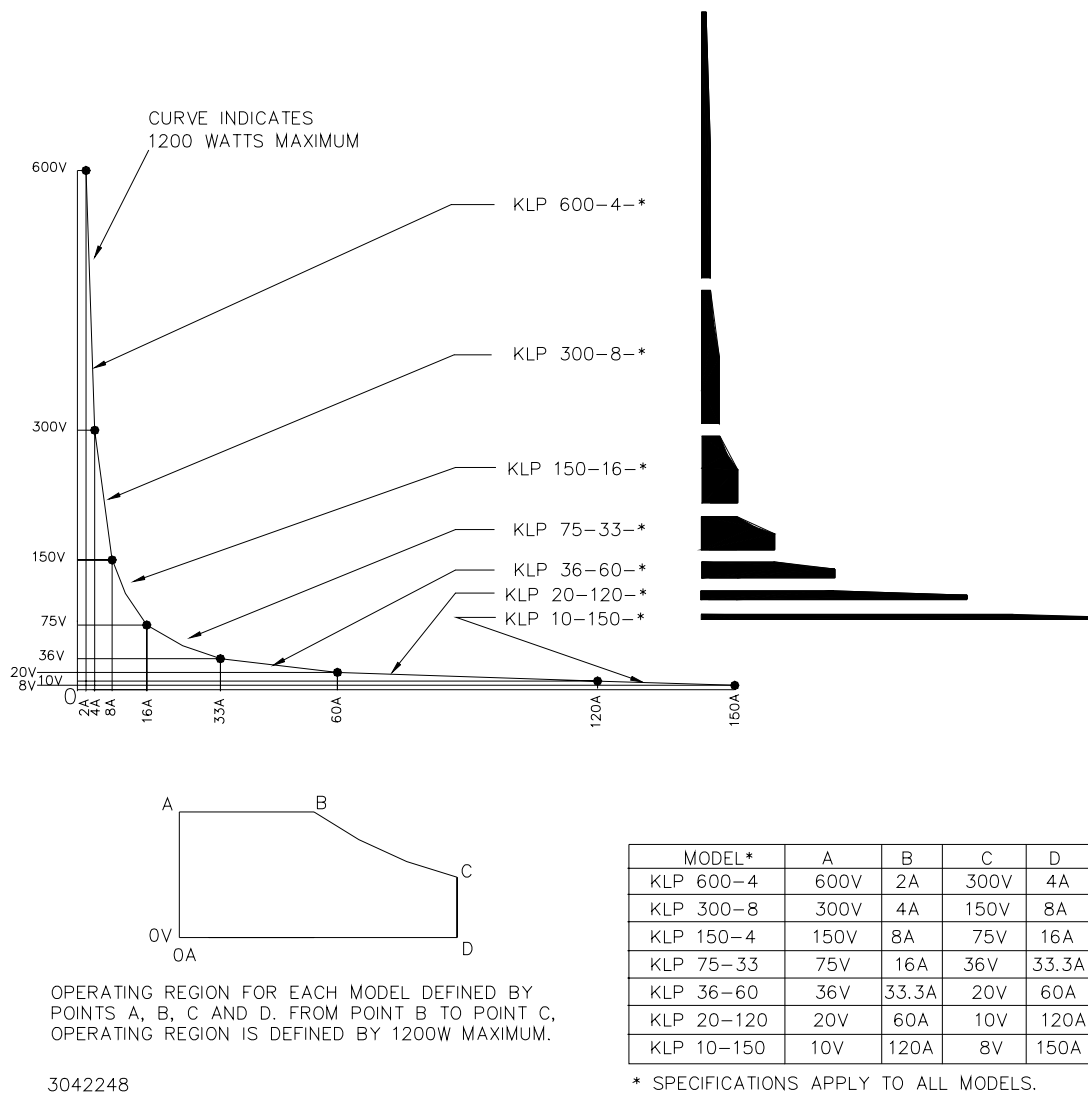

FIGURE 1-2. KLP OPERATING REGIONS
For each model a multitude of virtual models can be configured. The "rated voltage, maximum current at rated voltage" and "rated current and maximum voltage at rated current" parameters define the virtual models available within the limit of 1200 Watts of output power (see Figure 1-2).
(1) The maximum current and voltage are constrained by the 1200 watt power limitation, see Figure 1-2.
(2) Bandwidth: 20MHz; low frequency ripple may be higher at loads less than 30 Watts.
(3) Specifications listed apply to both standard and E-Series (suffix E) models.